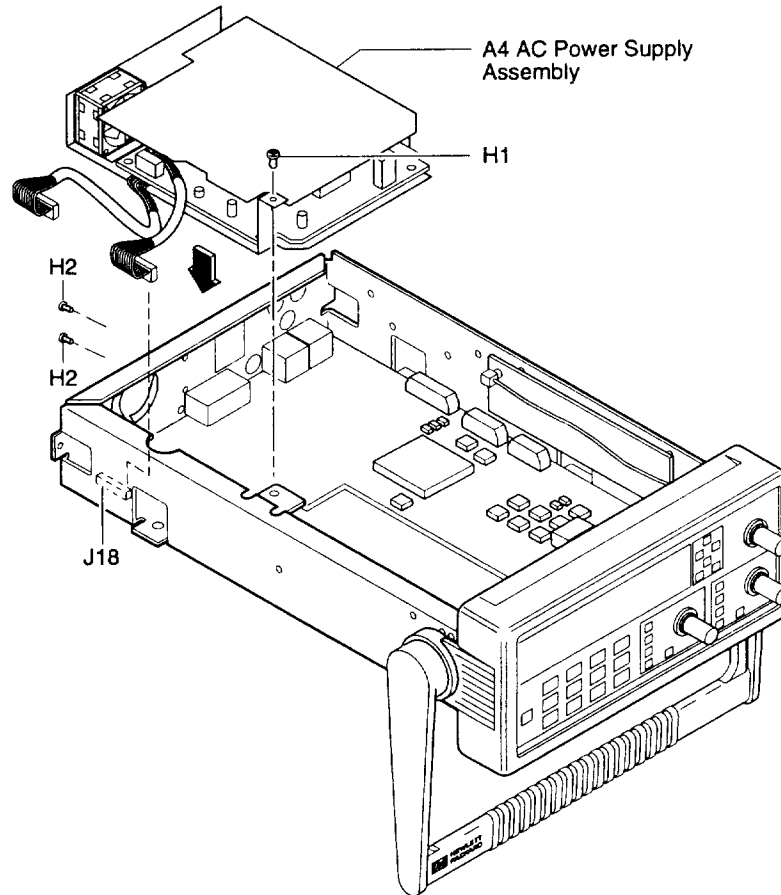

Figure 4-2B. DC Power Input Assembly Retrofitting
- 7 To install the new A4 AC Power Supply Assembly (53132-60207), connect the ac power supply's shorter cable to connector J18 on A1 Motherboard Assembly as shown in Figure 4-2B.
- 8 Insert and tighten the two TORX 10 screws (H2) to attach A4 Power Supply Assembly to the rear of the chassis as shown in Figure 4-2B.
- 9 Insert and tighten the TORX 15 screw (H1) into the upper-middle of the chassis as shown in Figure 4-2B.